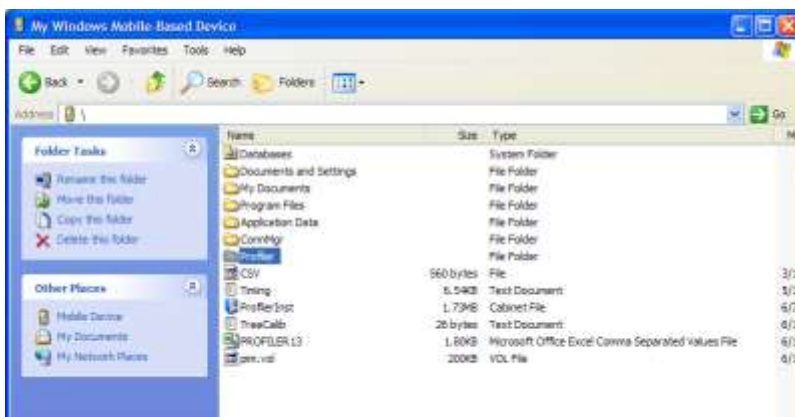

Figure 31: PDA Root directory.
5. The user should now select the **My Windows Mobile-Based Device** icon. This will access the PDA Root directory (Figure 31).